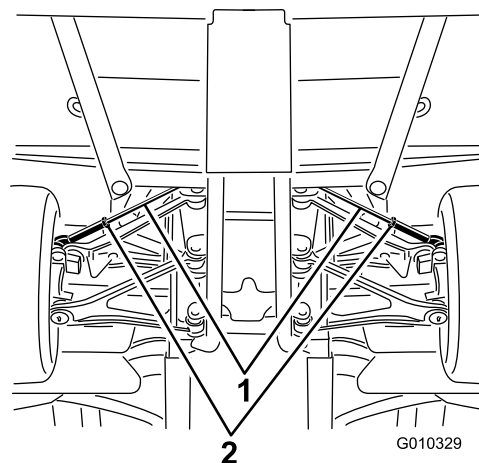

Figure 57
- A. Loosen the jam nut at the center of the tie rod (Figure 57).